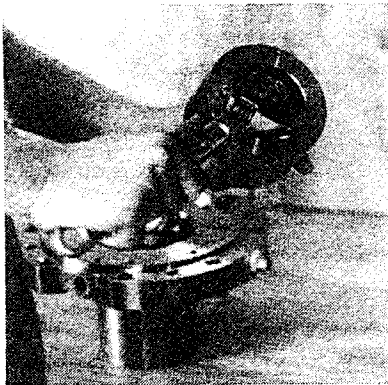

Figure 4
13. Loosen the sleeve bolt set screw (Item 12) and remove the sleeve bolt (Item 7) [Fig. 4]. Remove the sleeve, the thrust ring, the inner magnet, and the inner magnet key (Item 16).